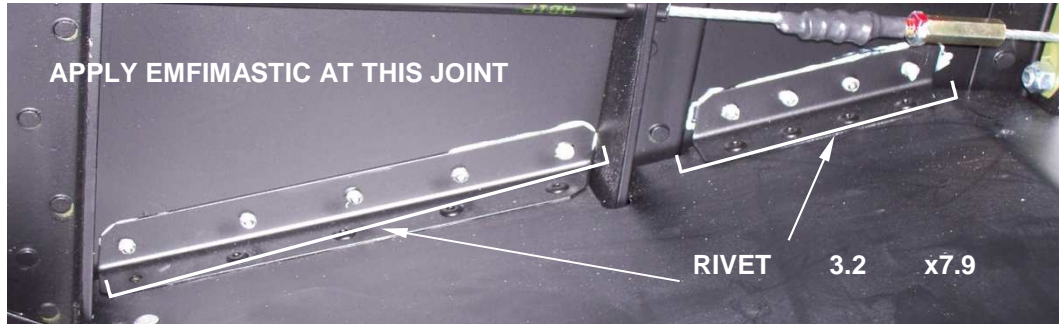
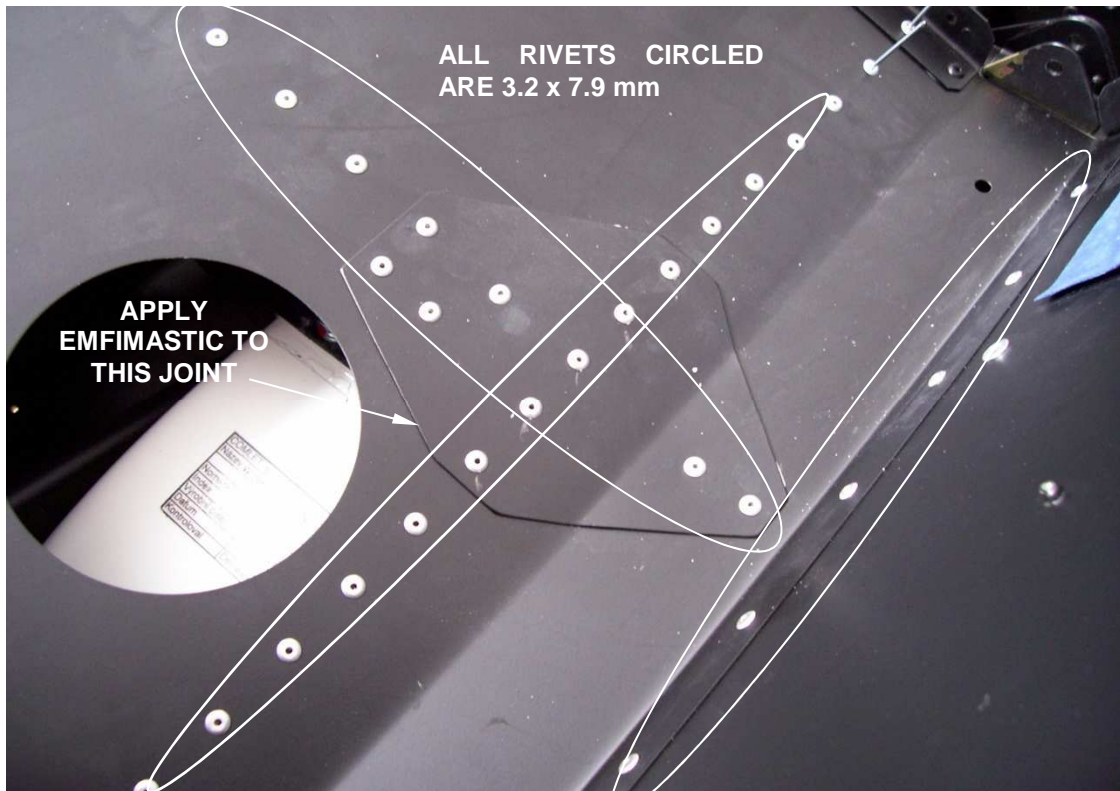

Figure 4a
Figure 5
- A. Fit the seat pan and replace the rivets. emfimastic should be applied only to the joint with the fuselage side (figure 4a) and between the doubler panel and the seat pan. Most rivets are 3.2 X 7.9mm. The exceptions are: six rivets (three each side) which fit through the spar cap and secure the control stick mounting brackets which are 3.2 X 11.1mm; another four (two each side) of the 3.2 X 11.1mm which fit at the inboard end of the row of rivets along the base of the pan and at the front inner end. Rivet the stick backstops in place using rivet 4 X 12.7mm Figure 5 and 6. See below for rivet part numbers